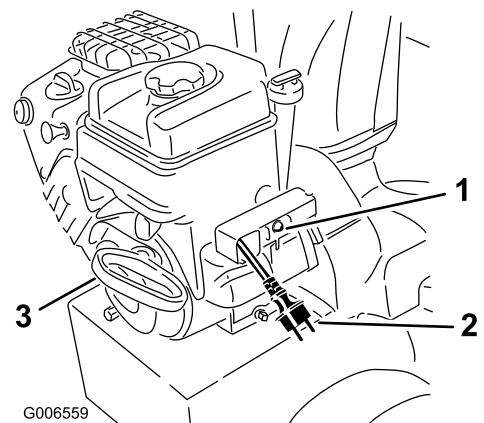

Figure 29
7. Start the snowthrower pulling the recoil starter or pressing the electric-starter button (Figure 29).